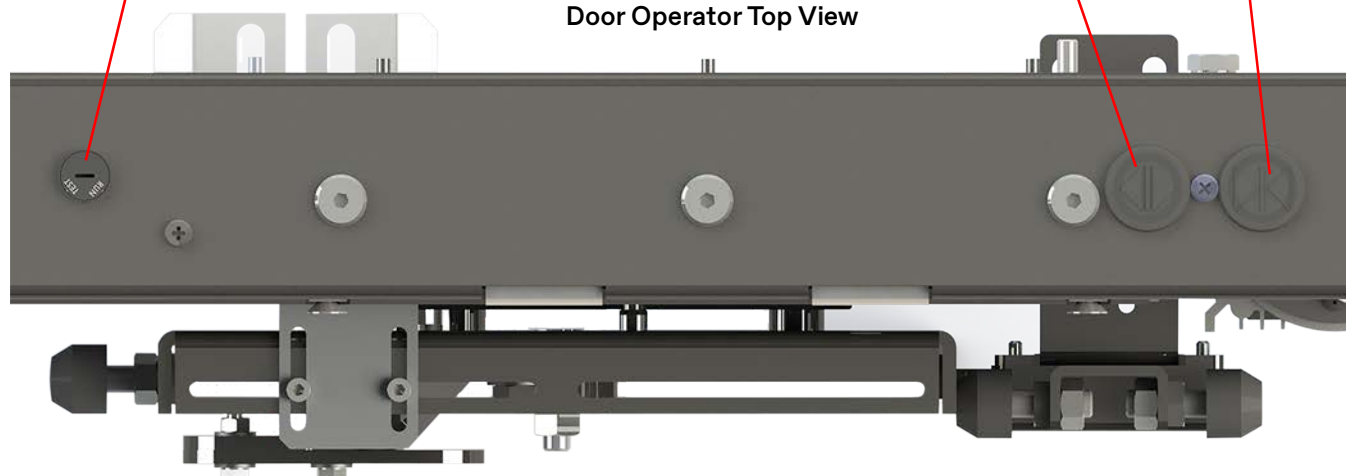

Figure 56 - LEDs and Test Buttons for Learn Door Travel
2. Power up the door operator, and verify the following LEDs. See Figure 56 on page 64.